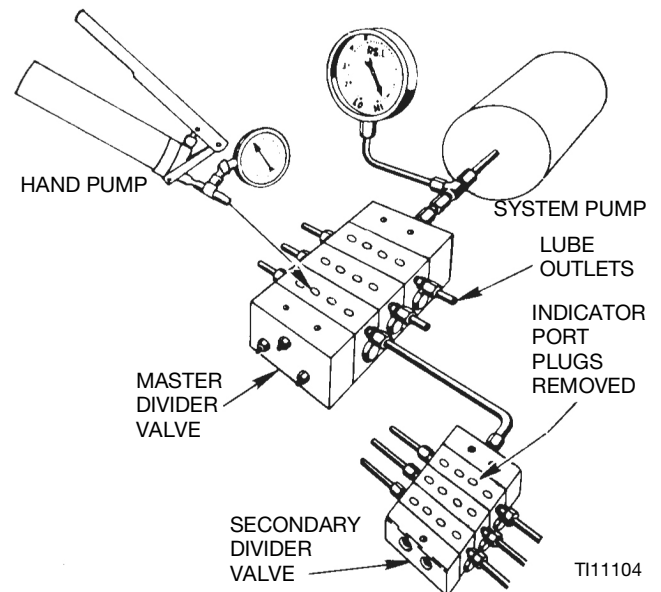

FIG. 13
5. If, during step 4, a blockage is indicated downstream of the master divider valve, install a manual pump in the indicator port of the master divider valve that is common to the blocked area. (See FIG. 13).